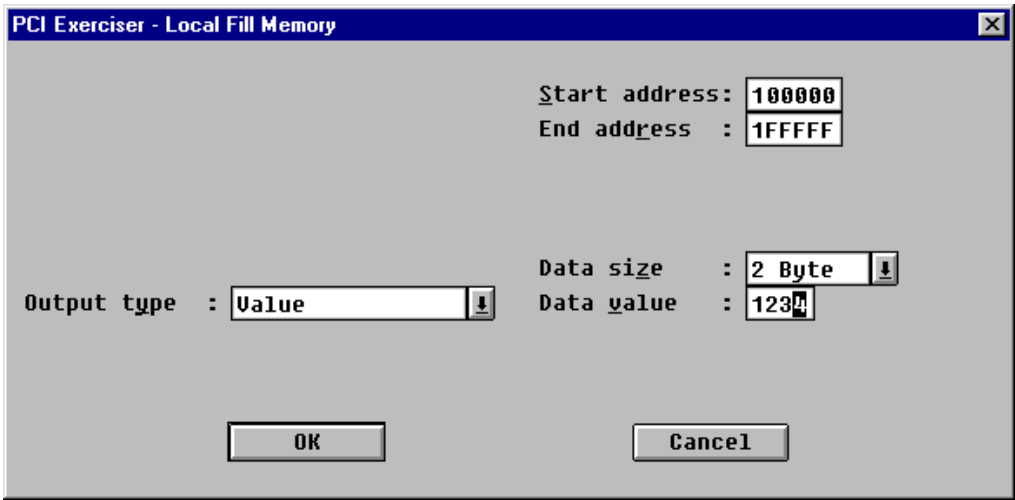

Figure 6.41 Local Fill command
**Local menu:**      Select `Fill` from the `Local` menu, and the dialog box in Figure 6.41 appears.